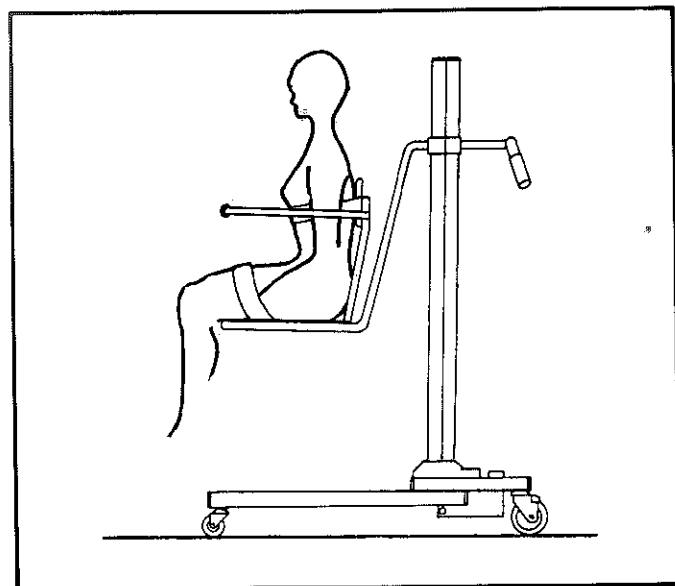

Figure 3-12
- D. Raise the patient lift high enough so the patient's feet are clear of the floor, Figure 3-12.
6. Raise the patient or resident Lift Seat high enough so that patient's feet are clear of the floor. (See Figure 3-12). Release caster locks on two rear casters.